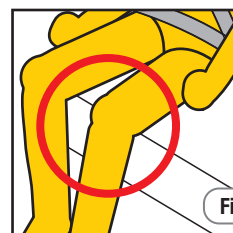

Figure 2
Step 2: Do the child's knees bend in front of the edge of the seat? (refer Figure 2).